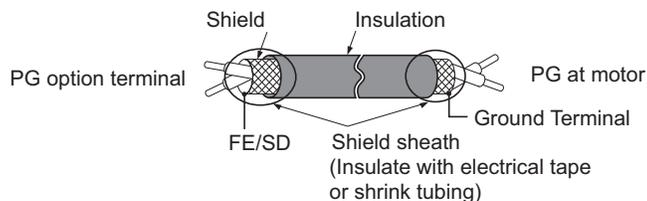

Figure 51 Preparing Ends of Shielded Cable
**Note:** There are two screw holes on the drive for use as ground terminals (I). When connecting three options, two ground wires will need to share the same drive ground terminal.
4. Prepare and connect the wire ends as shown in Figure 51 and Figure 52. Refer to Table 90 on page 201 to confirm that the proper tightening torque is applied to each terminal. Take particular precaution to ensure that each wire is properly connected and wire insulation is not accidentally pinched into electrical terminals.
Wire the motor PG encoder to the terminal block on the option using a HEIDENHAIN 17-conductor cable. Refer to Figure 51 and Figure 52 for wiring instructions. Refer to Figure 53 for the connection diagram.
Wire the motor PG encoder to the terminal block on the option using a HEIDENHAIN 8-conductor cable. Refer to Figure 51 and Figure 52 for wiring instructions. Refer to Figure 54 for the connection diagram.
Wire the motor PG encoder to the terminal block on the option using a SICK STEGMANN 8-conductor cable. Refer to *Figure 51* and *Figure 52* for wiring instructions. Refer to *Figure 55* for the connection diagram. Refer to *Table 92* on page 202 for a detailed description of the option terminal functions.